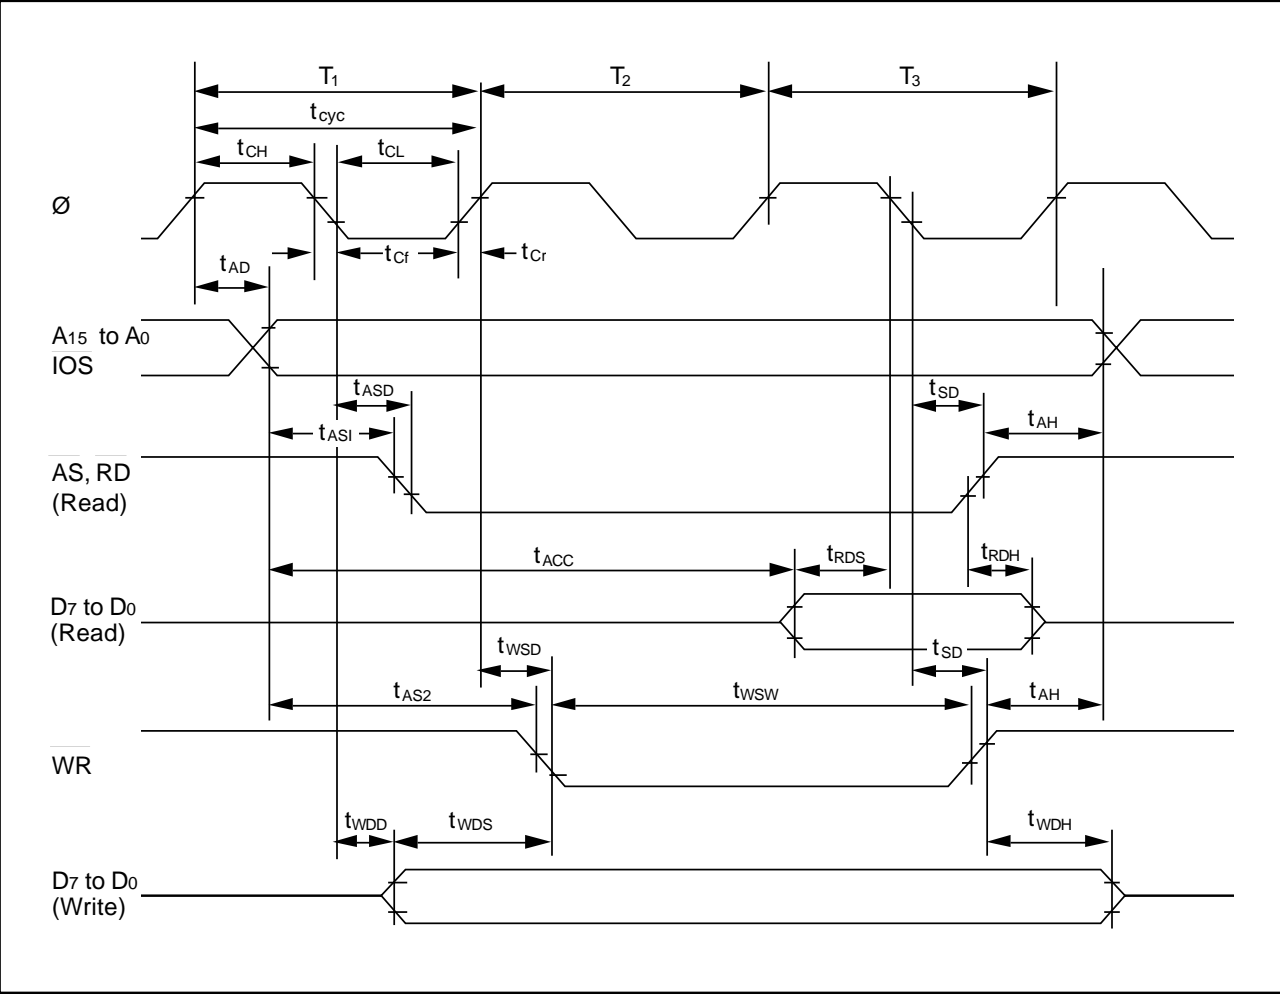

Figure 15-4. Basic Bus Cycle (without Wait States) in Expanded Modes
15.3.1 Bus Timing	Figures 15-4 to 15-6